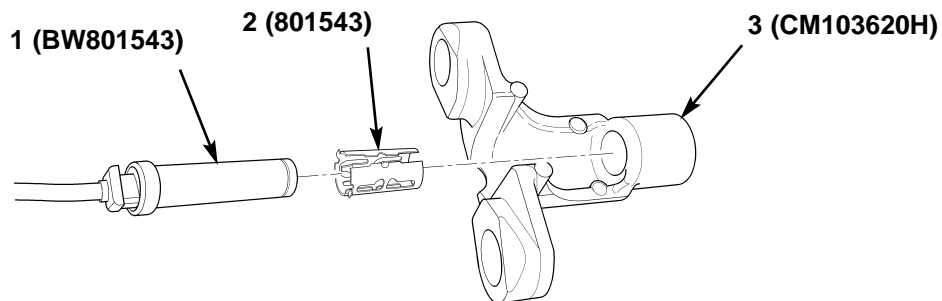

Figure 11. Installing Wheel Sensor on Sensor Bracket.
11. Install new clamp sleeve (figure 11, item 2) and new sensor (figure 11, item 1) on new sensor mounting bracket (figure 11, item 3). Slide sensor (figure 11, item 1) approximately half way in clamp sleeve (figure 11, item 2).